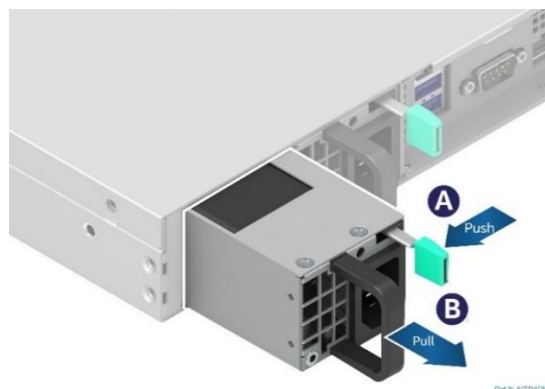

Figure 64. Power Supply Removal
2. Remove the power supply from the system (see Figure 64)